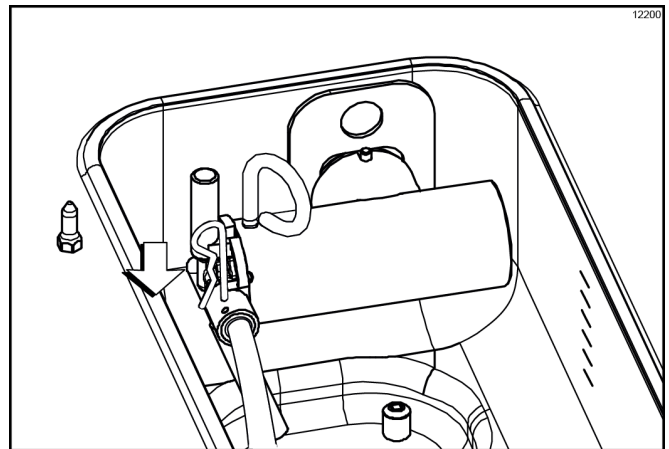

Figure-167
- When the mix stops bubbling down into the freezing cylinder, remove the cotter pin from the outlet fitting of the mix pump. Insert the outlet end of the mix feed tube into the mix inlet hole in the mix hopper. Place the inlet end of the mix feed tube into the outlet fitting of the mix pump. Secure with cotter pin. (See Figure-167.)